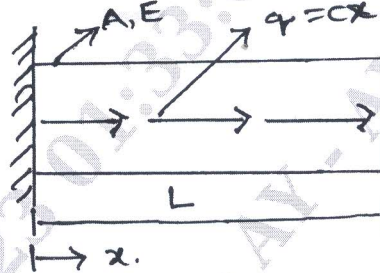

Fig Q2(b)
- b. A bar of length  $L$ , cross sectional Area  $A$  and modulus of elasticity  $E$ , is subjected to distributed axial load  $q = cx$ , where  $C$  is a constant as shown in Fig Q2(b). Determine the displacement of the bar at the end using Rayleigh - Ritz method.